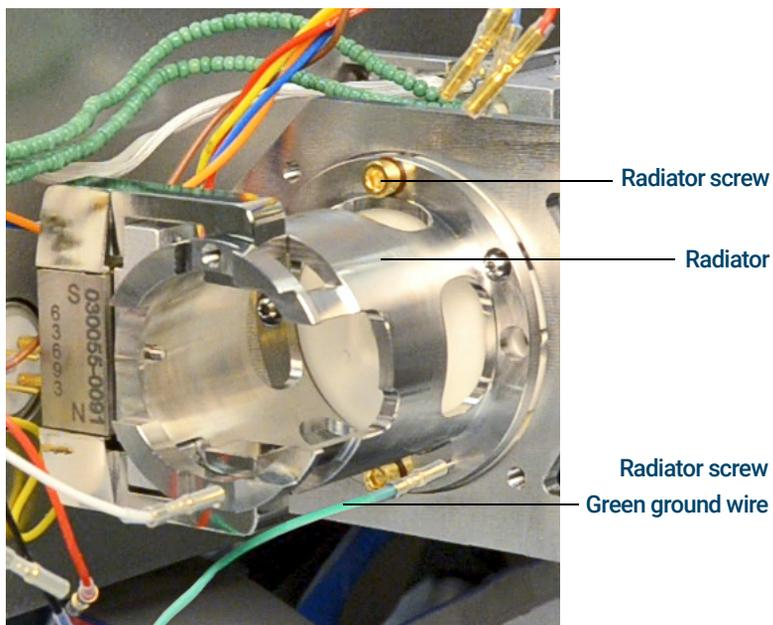

Figure 85. CI Source radiator
- 2 Connect the green ground wire to the radiator. (See **Figure 85**.)